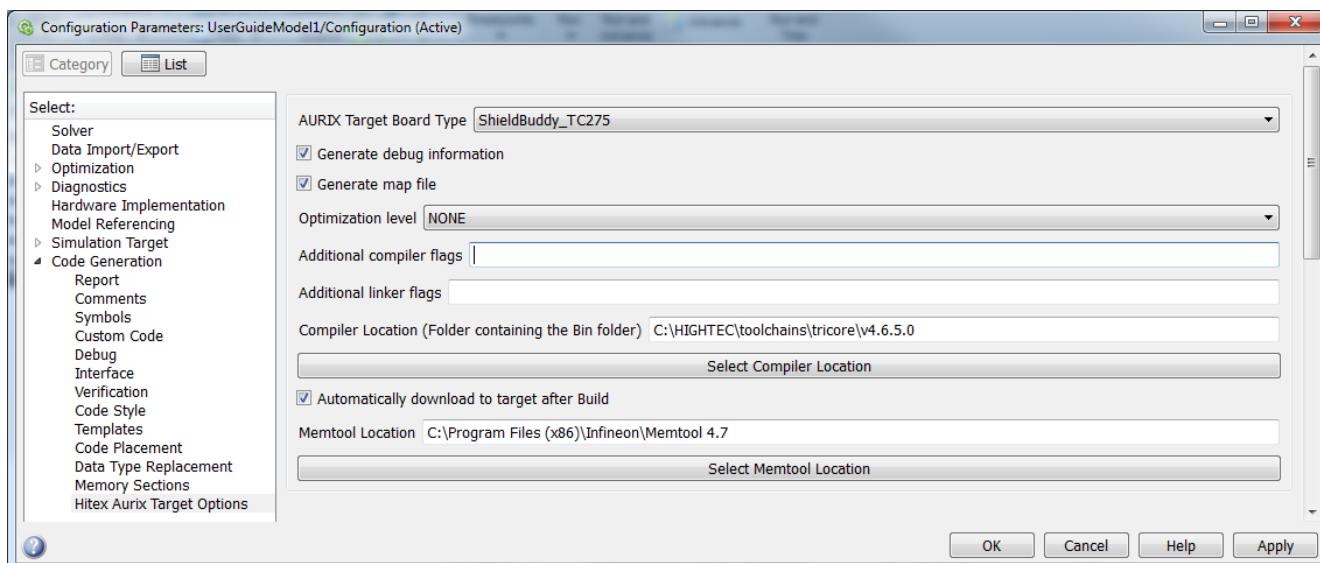

Figure 7 AURIX Target Code Generation Options
4. Select Code Generation -> Hitex Aurix Target Options, Figure 7